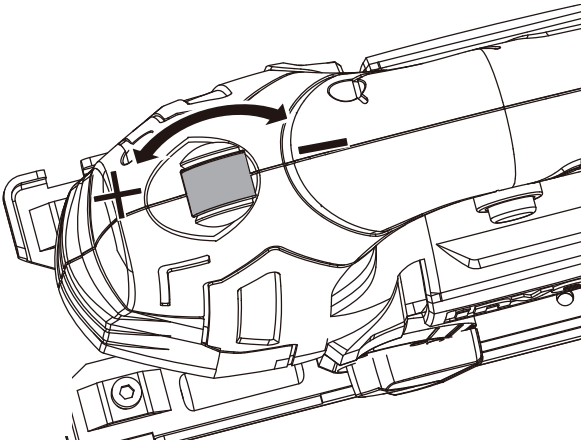

Figure 8
4. VARIABLE SPEED CONTROL (SEE FIG. 8)